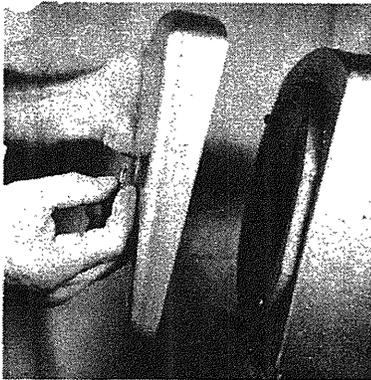

Fig. 8-1
- A. Remove the retaining screw and trim cap (Fig. 8-1).